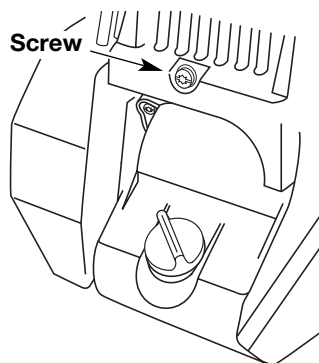

Fig. 41
3. Remove the screw behind the engine cover (Fig. 41).